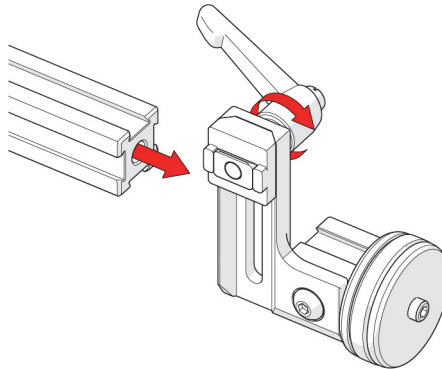

Figure 2-20 Attach to the frame bar
1. Using the black ratchet lever, ensure the dovetail nut is loose (see Figure 2-20 on page 51).
2. Slide the dovetail nut onto the frame bar (see Figure 2-20 on page 51).